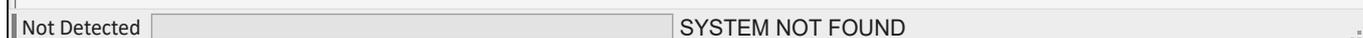

Fig. 19
- **Check Connection** - this menu option can be selected after the **Comm Port** drop down list has been refreshed and the required **Comm Port** has been selected. It is used to check the connection and communication between the lift interface and the PC if the connection is lost or the device is shown as being offline (this is usually shown at the bottom left corner of the screen indicated by a red 'Not Detected' square, refer to **Fig.19**).
- **NOT DETECTED:** see **Fig.19**, this indicates that the lift interface has not been detected by the 2X00PC software and is not connected. Note that when the connection status is showing as **NOT DETECTED** some of the top menu options are 'grayed' out and not available. These menu options will only become available when the software is connected to the lift interface and showing as **DETECTED**, see **Fig.20**.
Click on **OK**, the status indication at the bottom of the screen will change to **NOT DETECTED**, see **Fig.19**. Follow steps 1 - 6 described above to try and re-establish communication between the software and the lift interface.